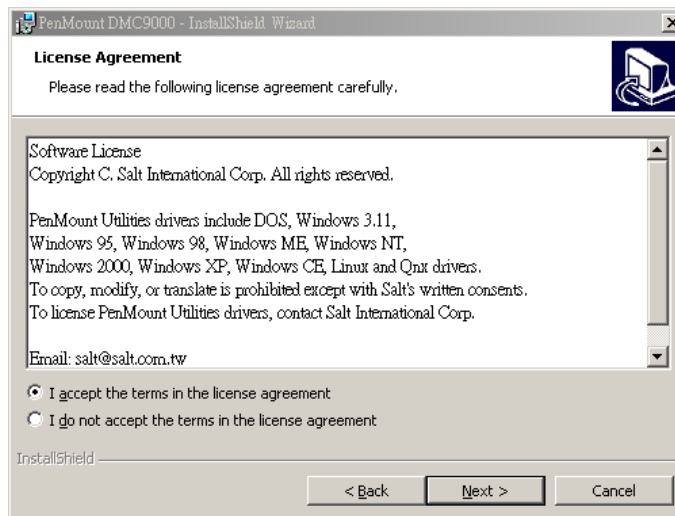

Figure 7-25: License Agreement
Step 4: The license agreement shown in Figure 7-25 appears. Agree to the license by selecting "I accept the terms in the license agreement".